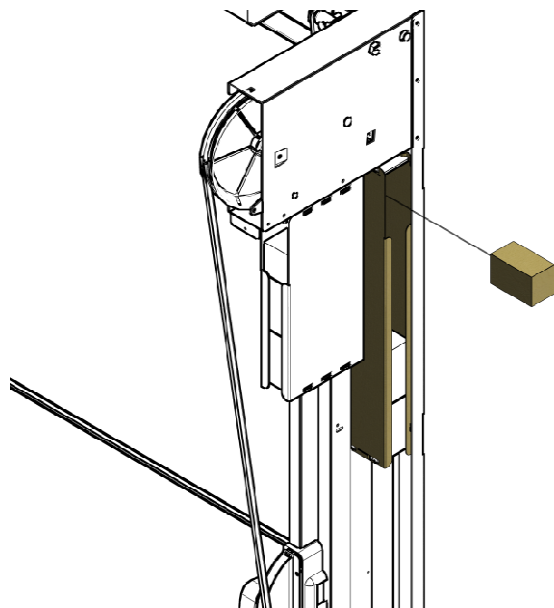

Figure 4-4 Right side only shown
1. If the upper section in open position tends to drop: with door closed, add weight units symmetrically to left and right narrow counterbalance boxes (Figure 4-4)
2. If the upper section opens too fast: with door closed, remove weight units symmetrically to left and right narrow counterbalance boxes (Figure 4-4)